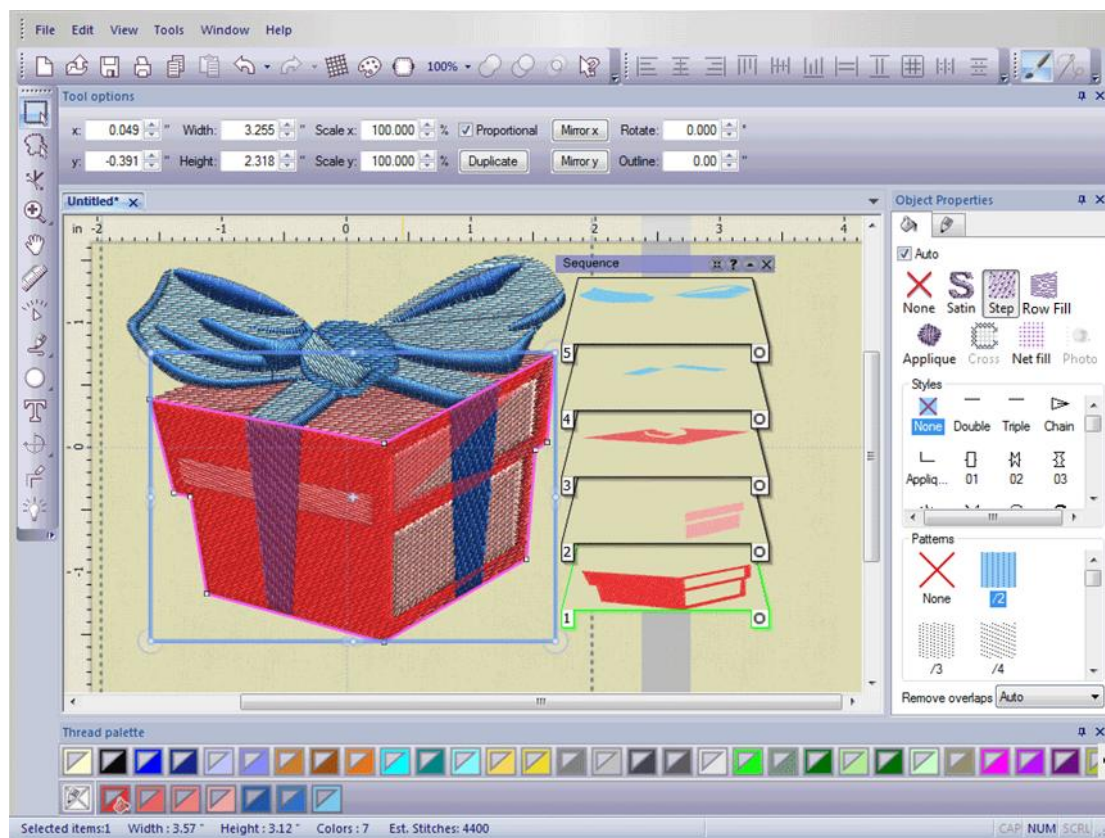

Figure 2.6: The imported design converted to stitches
25. The design will appear in the working area filled with stitches (Figure 2.6).